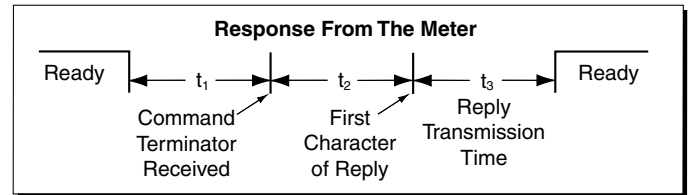

Figure 6 – Timing Diagram
See Figure 6. At the start of the time interval t_1 , the sending device (PC) prints or writes the string to the com port, thus initiating a transmission. During t_1 the command characters are under transmission and at the end of this period the command terminating character is received by the controller. The time duration of time interval t_1 is dependent on the number of characters and baud rate of the channel: